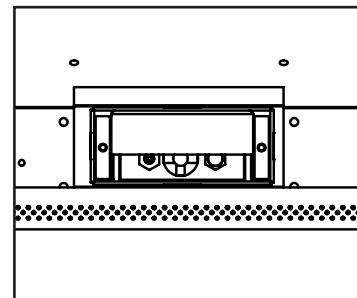

Figure 14: Ignitor assembly beside the burner.
8. Reinstall the burner, brick panels, log set, embers, and glass door. Also refer to **SECONDARY INSTALLATION - INSTALLING LOG SET AND EMBERS** in your Owner's Manual. When re-installing the burner, ensure that the burner to pilot hood relationship is similar to what is shown in Figure 14.